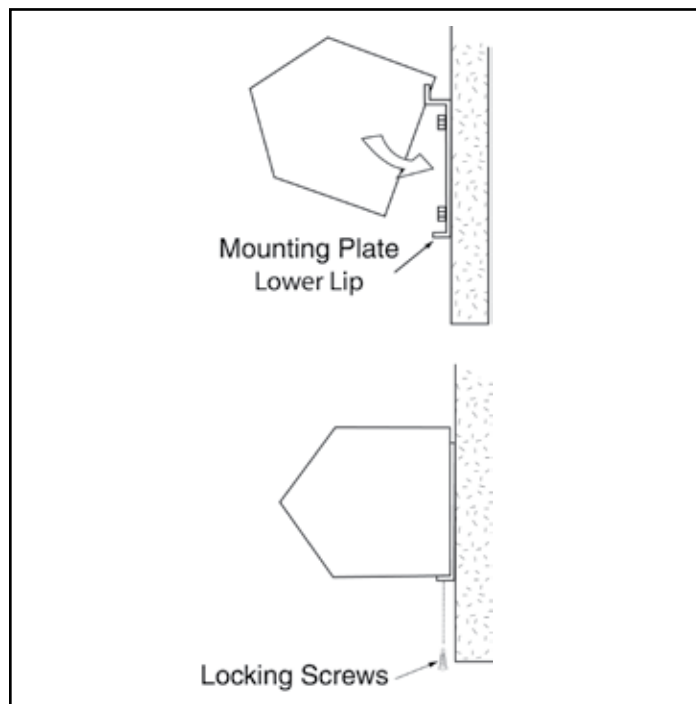

FIGURE 4 - Attaching Unit to Mounting Plate
- E. Raise the unit over the door (air discharge nozzle facing down) and on to the mounting plate. First, tilt the unit upward matching the holes in the frame with the tabs on the mounting plate. **See FIGURE 4.**
- G. After the unit is securely seated to the mounting plate, install the locking screws along the bottom flange. **See FIGURE 4.**